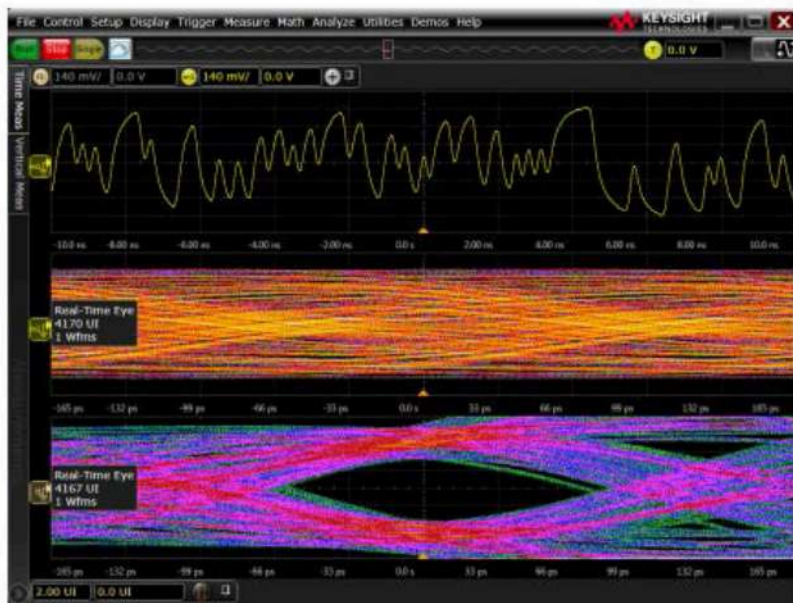

Figure 7. Serial data equalization software.
**Serial data equalization software** (SDE), N5461A (Figure 7), provides fast and accurate equalization using Feed-Forward Equalization (FFE), Continuous Time Linear Equalization (CTLE), and Decision Feedback Equalization (DFE) modeling in real time. Serial data equalization software allows you to input equalizer settings and tap values from your design, enabling simulation of the receiver eye opening. If preferred, the software can also find the optimal tap values, which can be used as references for your designs.